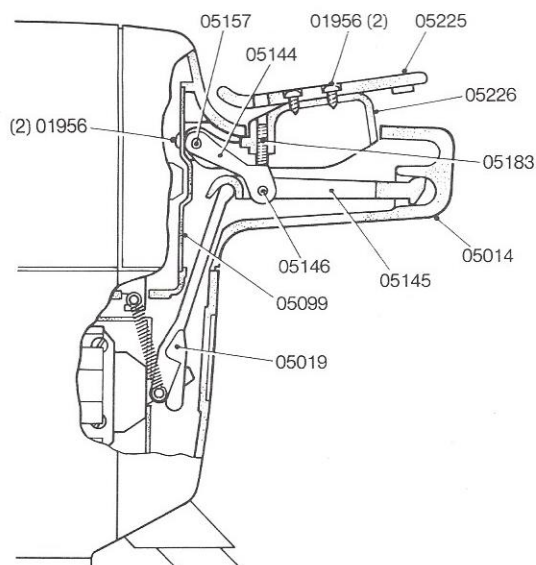

Figure 22 Assembly of the Switch linkage
- 13.1.1 Fix together the Adjusting Link and Lever by pressing the Tension Pin through the two components. See Figure 22.
- 13.1.2 Add the Trigger to the assembly using the Trigger Pivot to retain the components. See Figure 22.
- 13.1.3 Slide the lever assembly into the Switch Handle so that the end of the Lever locates in the lower of the two recesses in the end of the handle and the bosses on the Trigger locate in the sockets at the open end. See Figure 22.
- 13.3.2 To fit the Switch Handle assembly and Switch Actuator, first push the top end of the Actuator through the hole in the lower side of the Handle and locate it into the socket on the end of the Lever. See Figure 22.